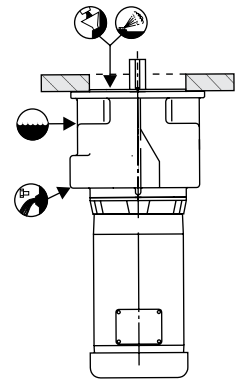

Figure 1
**MOUNTING (Figure 1, Page 2)** — Sizes 201 thru 207 are furnished filled with oil to the approximate level determined by the mounting position ordered. Sizes 208 thru 14 are furnished without oil. Refer to **Table 3, Page 4** for a list of typical lubricants meeting Regal Rexnord specifications. Fill drives to the oil level plug. Refer to **Table 4, Page 5** for the approximate quantities of oil by the drive mounting position. Refer to **Figure 1, Page 2** for the placement of the vent, drain and oil level plugs based on the drive mounting position.